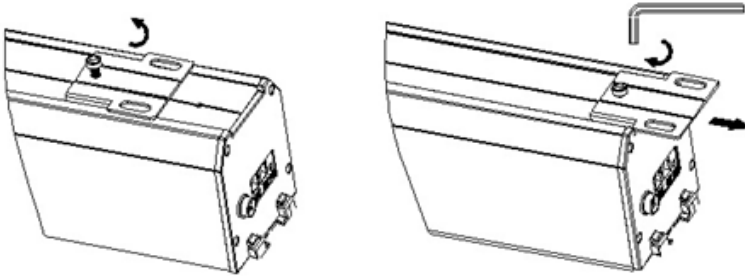

Figure 2
2. Loosen the screws of the mounting plate above the screen housing. Slide the mounting plates to the ends of the housing and tighten the screws again (Figure 2). Please ensure that the holes for the threaded rods are not covered by the housing.
To lower the screen (see fig 2)
(Fig. 2)